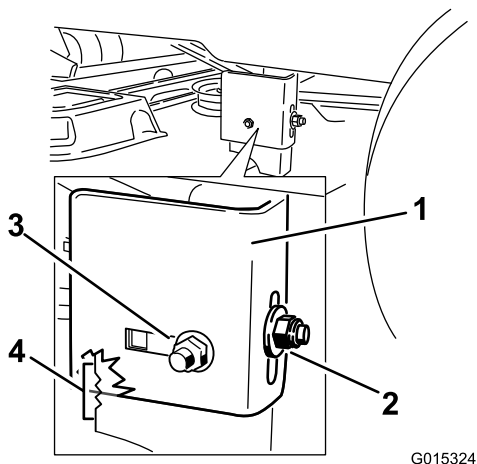
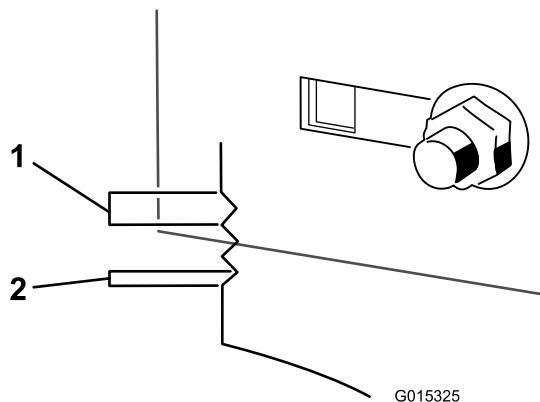

Figure 51
Figure 52
9. Loosen the rear locking nut on the hanger bracket (Figure 51).
10. Loosen the side locking nut on the hanger bracket just enough to allow the hanger to be adjusted (Figure 51). Use the notches on the welded bracket to measure the amount of adjustment. Each notch surface is equivalent to 6.35 mm (1/4 inch), while a single side is 3.18 mm (1/8 inch) as shown in Figure 52).
12. Stop the deck at the adjusted position and tighten the side locking nut on the hanger bracket to hold the new position (Figure 51).